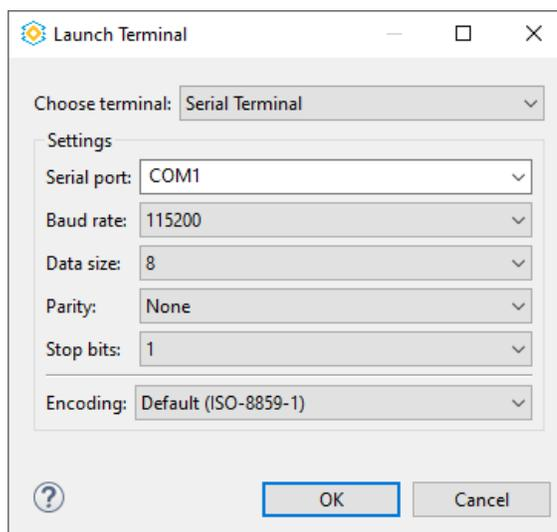

Figure 3.38. Launch Terminal Dialog
2. In the **Terminal** view, click the **Open a Terminal** icon . The **Launch Terminal** dialog opens (Figure 3.38).